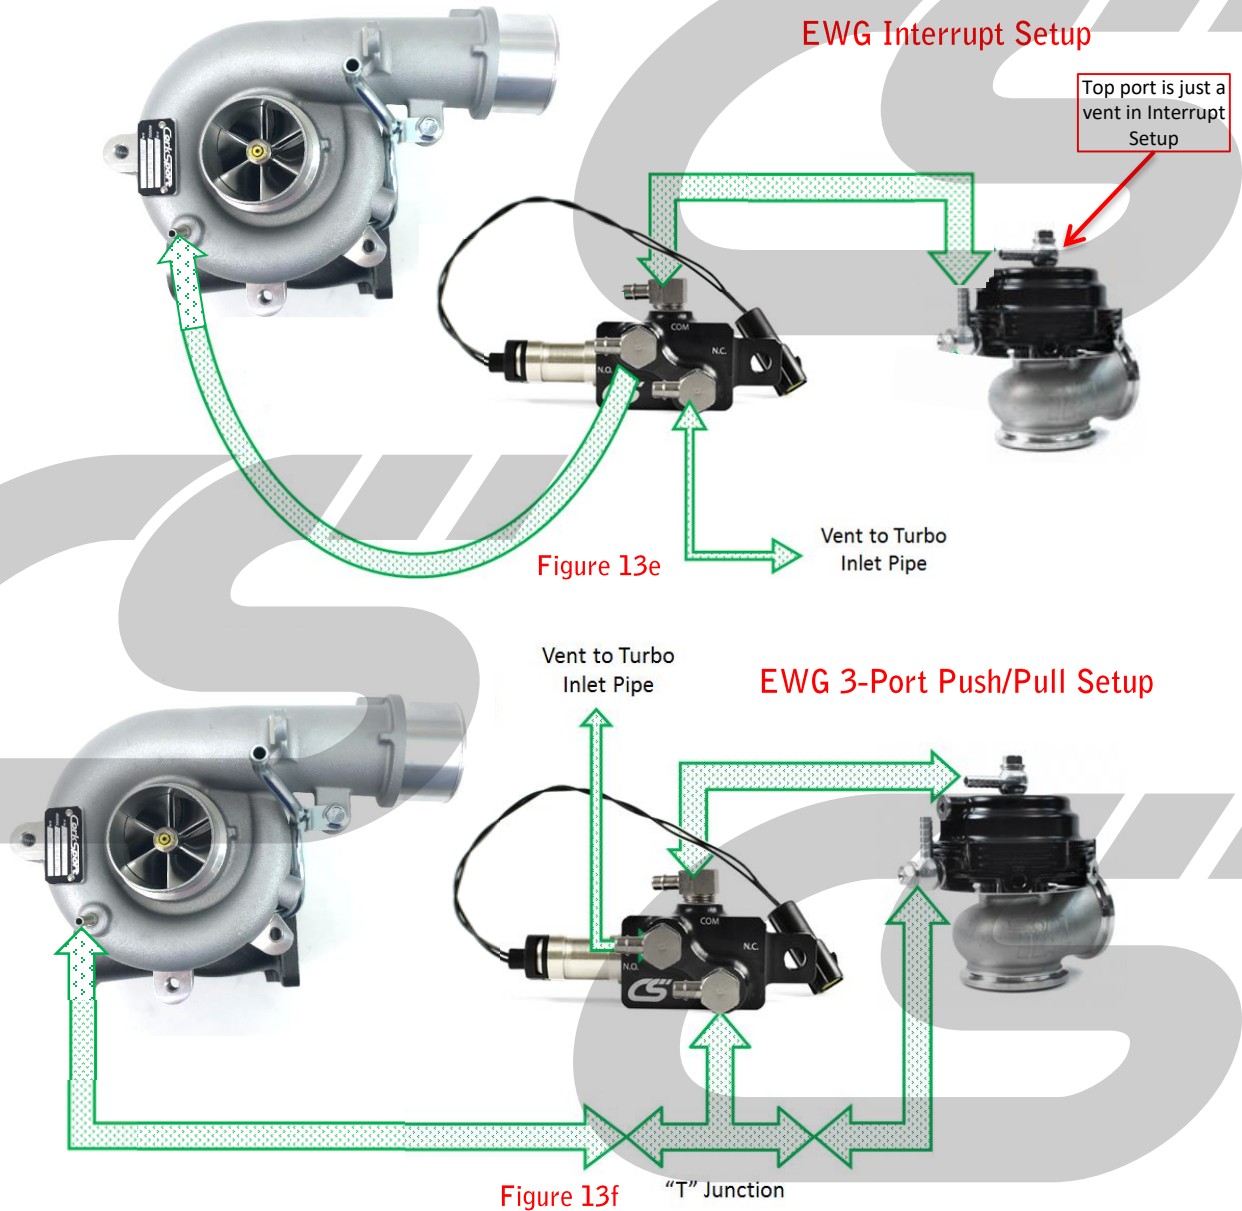

Figure 13d
- c) Attach your CS dumptube loosely onto the outlet of your EWG using the smaller of the two clamps that came with your EWG. Tighten the clamp using an 8mm socket and 5mm Allen wrench just enough to keep the two components connected, but still able to rotate easily. Shown in **Figure 13d**.